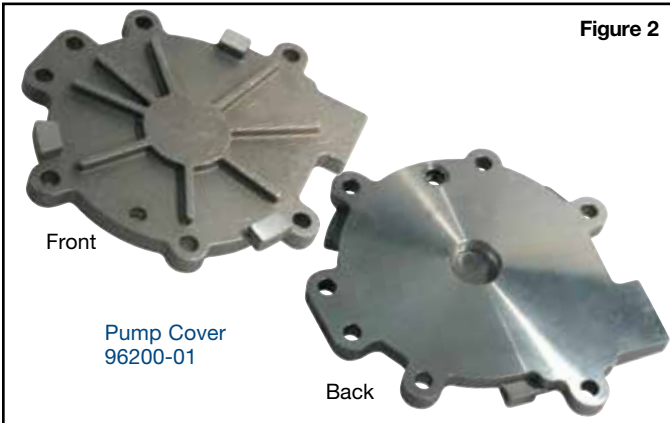

Figure 2
**Note:** Pump cover also available as part number 96200-01 (Figure 2).